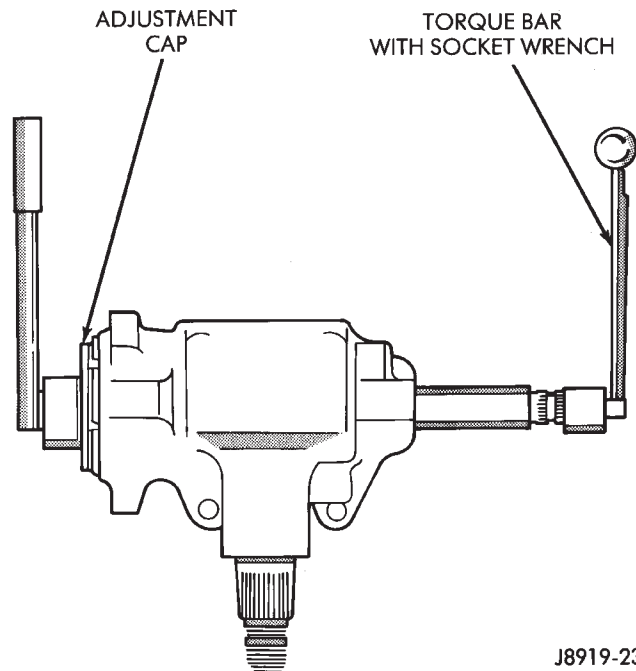

Fig. 13 Worm Bearing Preload Adjustment
(1) Tighten the worm bearing adjuster plug until it bottoms, then loosen 1/4 turn.
(2) Carefully turn the wormshaft all the way to the end of travel, then turn back 1/2 turn.
(3) Tighten adjuster plug until torque wrench indicates 0.6 to 1.0 N·m (5 to 8 in. lbs.) torque (Fig. 13).